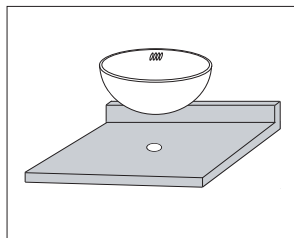

Figure 6
6. Prepare countertop by drilling a 1-3/4" diameter drain hole at desired location. (Figure 6)